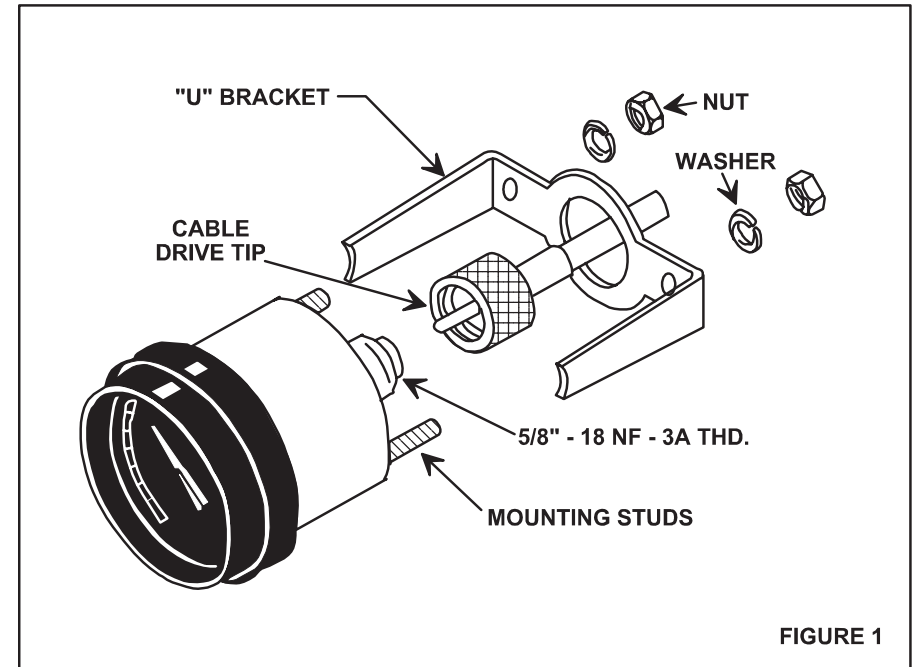

FIGURE 1
4. Open Hardware Packet. Fit "U" bracket over mounting studs on back of gauge (See Figure 1). NOTE: Legs of bracket may be shortened if needed to accommodate thicker panels.
After checking fit of gauge and "U" bracket, insert Gauge into panel and install bracket over mounting studs. Install a nut and washer onto each mounting stud as shown in Figure 1. **CAUTION: OVER TORQUING OF NUTS MAY CRACK GAUGE HOUSING OR MOUNTING PANEL.**